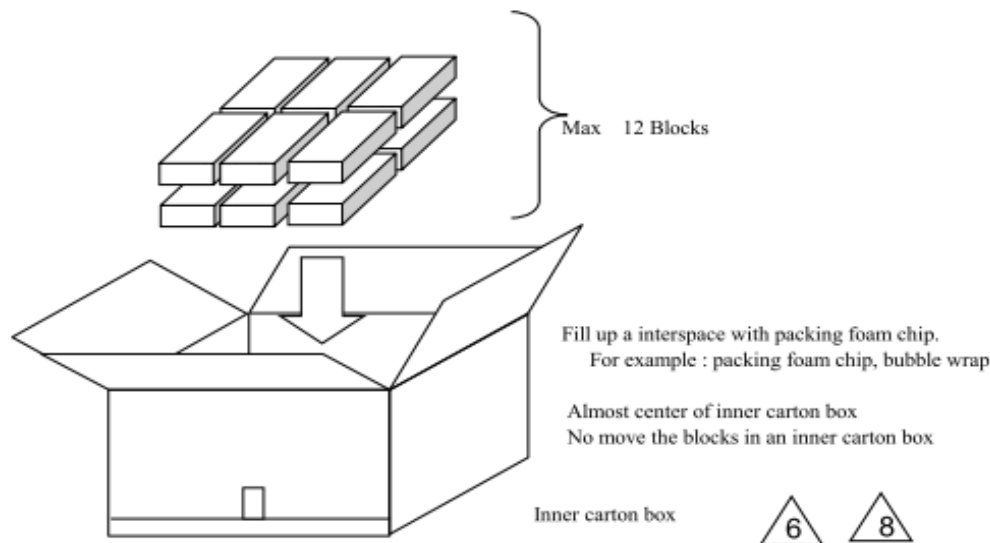

Figure 19.1 Inner carton box packing
- Block direction in inner carton box: Position of Block is not leaned to one side and almost center of inner carton box (see Figure 19.1 below)